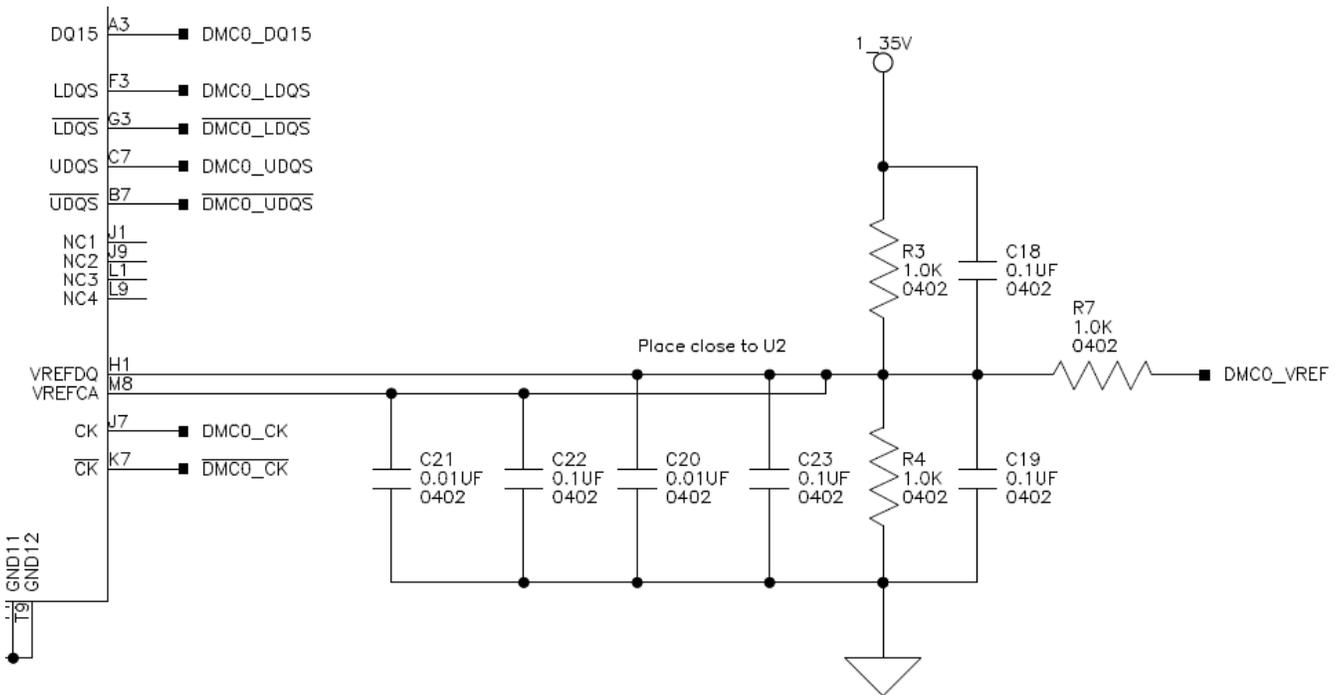

Figure 4: Recommended VREF Supply Circuit
- Keep the length from the decoupling capacitor to the DRAM supply pin as short as possible. Maintain the trace width based on the peak current requirement of the DDR. Figure 4 shows the recommended VREF supply circuit for a DDR3 memory device.